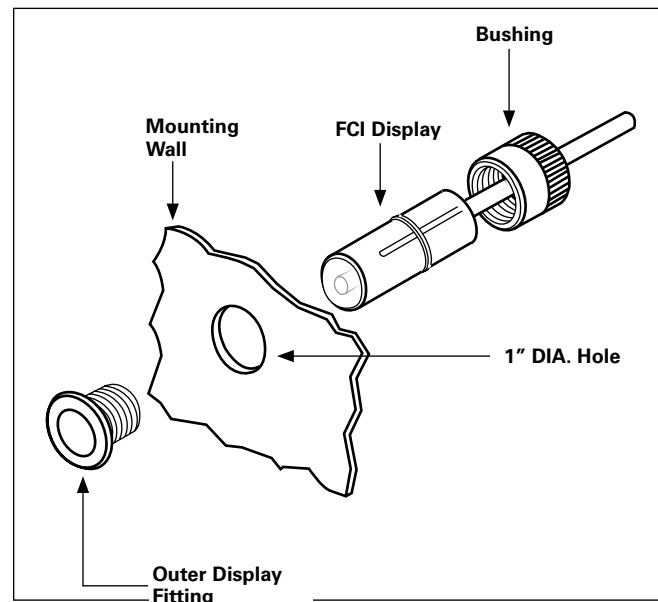

Figure 8. Small remote display installation diagram
1. **Punch or drill** one 1" (25.4 mm) hole in the equipment cabinet sill, sidewall or door, as shown in Figure 8.